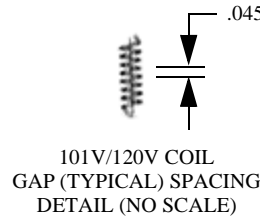

FIGURE 1
03-933005-01/03 (FIGURE 1)
1. PRIOR TO ROUTING HEATERS (-01/-03) AS SHOWN, HOLD THE EYELET AT EACH END OF THE HEATER AND STRETCH TO OBTAIN A RELAXED LENGTH OF $24.0'' \pm .5$, SEE COIL IN FIGURE 1 FOR LOOP SPACING.